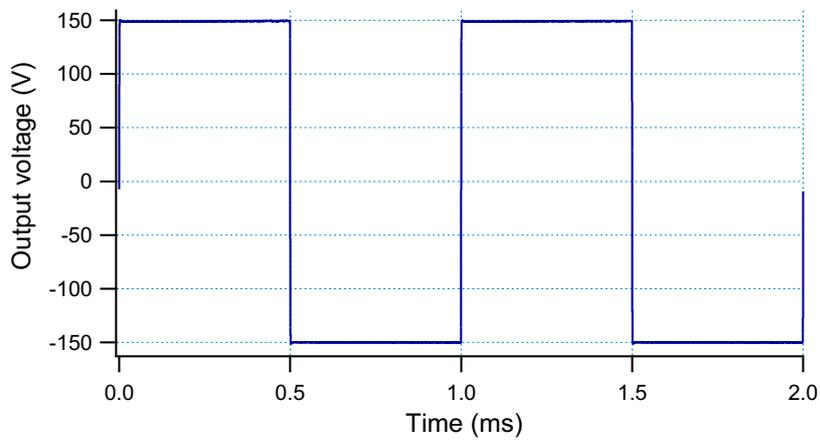

Figure 8. Square wave 300V_{pp} 1kHz
- Square wave response (Fig. 8, 9, 10)